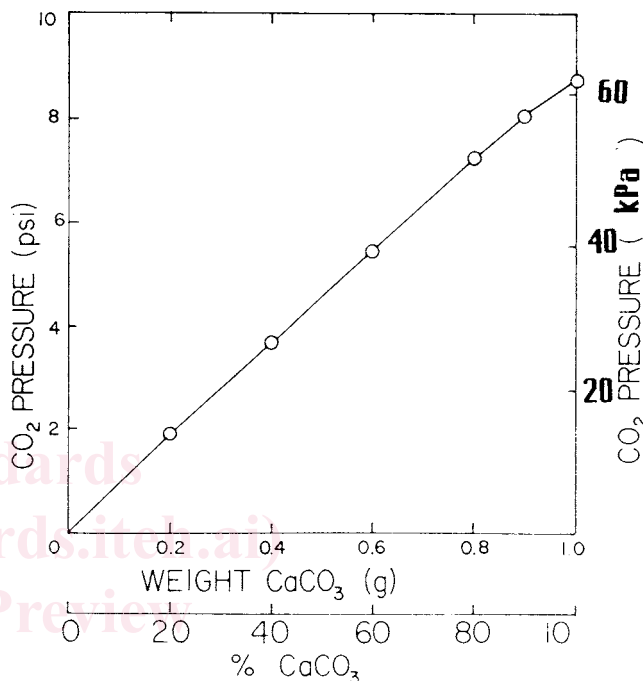

FIG. 1 Typical Calibration Curve for 0.374L Test Cell and 10 psi (69 kPa) Pressure Gage
2.1 The calcium carbonate content of soil is determined by treating a 1-g dried soil specimen with hydrochloric acid (HCl) in an enclosed reactor vessel. Carbon dioxide gas is evolved during the reaction between the acid and carbonate fraction of the specimen. The resulting pressure generated in the closed reactor is proportional (see Fig. 1) to the carbonate content of the specimen. This pressure is measured with a bourdon tube pressure gage, or equivalent pressure-measuring device, that is precalibrated with reagent grade calcium carbonate.